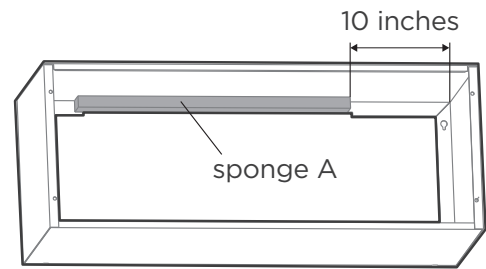

Fig. 1
- If using the old wall sleeve, the sponge on the wall sleeve needs to be replaced. First, remove the old sponge from the sleeve, then attach sponge A from the accessories. (See Fig. 1.)
- If using the new wall sleeve, simply attach sponge A. (See Fig. 1.)